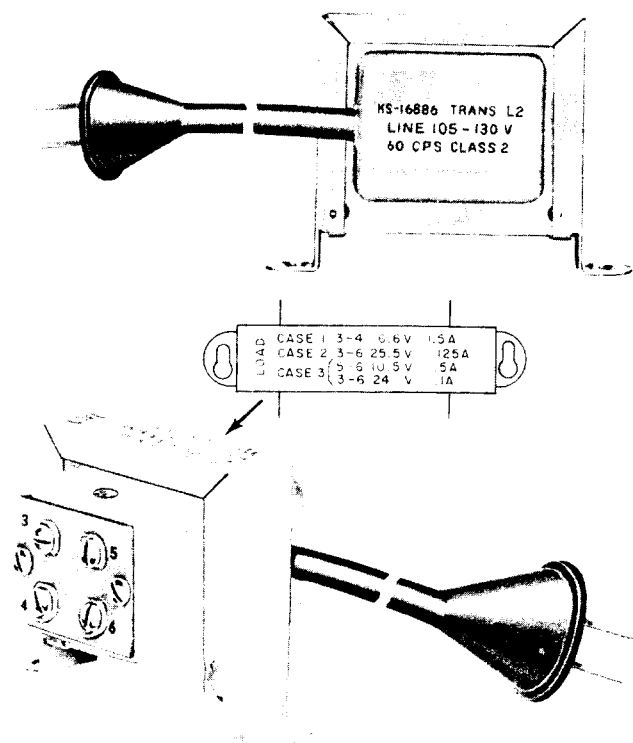

Fig. 8—KS-16886L2 Transformer
3.01 The KS-16886L2 transformer (Fig. 8) is primarily intended as the centralized power